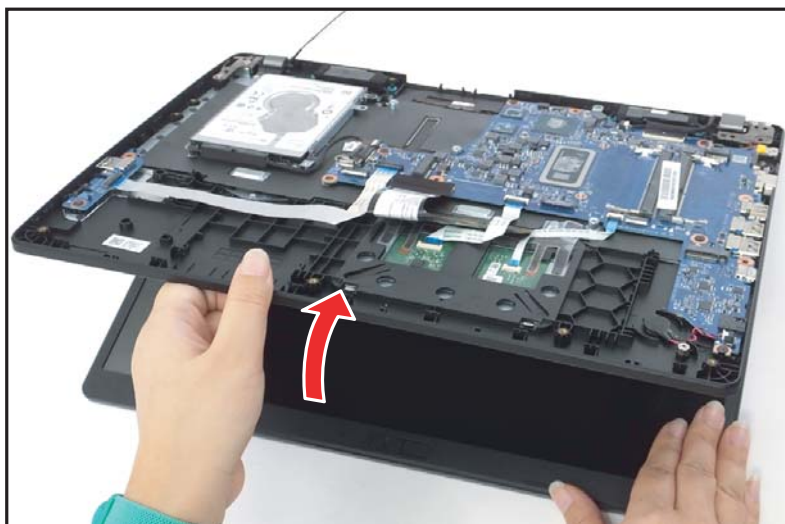

Figure 1-42. Mainboard Removal
2. Lift the top assembly until it is fully open (Figure 1-42).